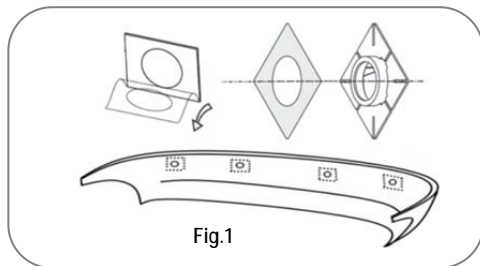

Fig.1
3. Peel off the adhesive film on one side of the pad and apply on the front side of the adapter as shown below (Fig.1).
4. Peel off the remaining adhesive liner and align the adapters on the 4 holes previously drilled in the bumper (Fig.1).